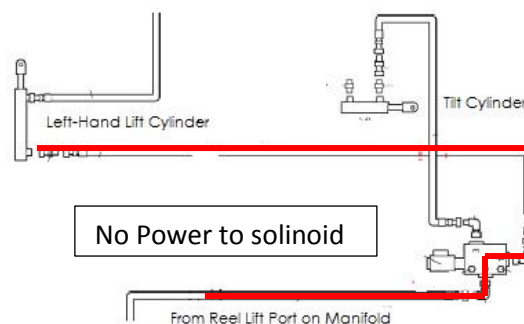
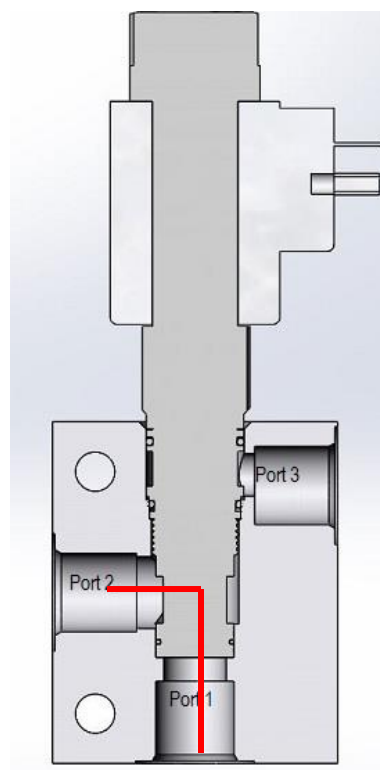

Figure 166
Figure 167
1. The tilt valve has a solenoid that is activated by the display box. This valve has three ports. With no power to the valve oil flows from port 2 to port 1. On the valve and provides oil to the reel lift cylinders. Figure 166 and Figure 167